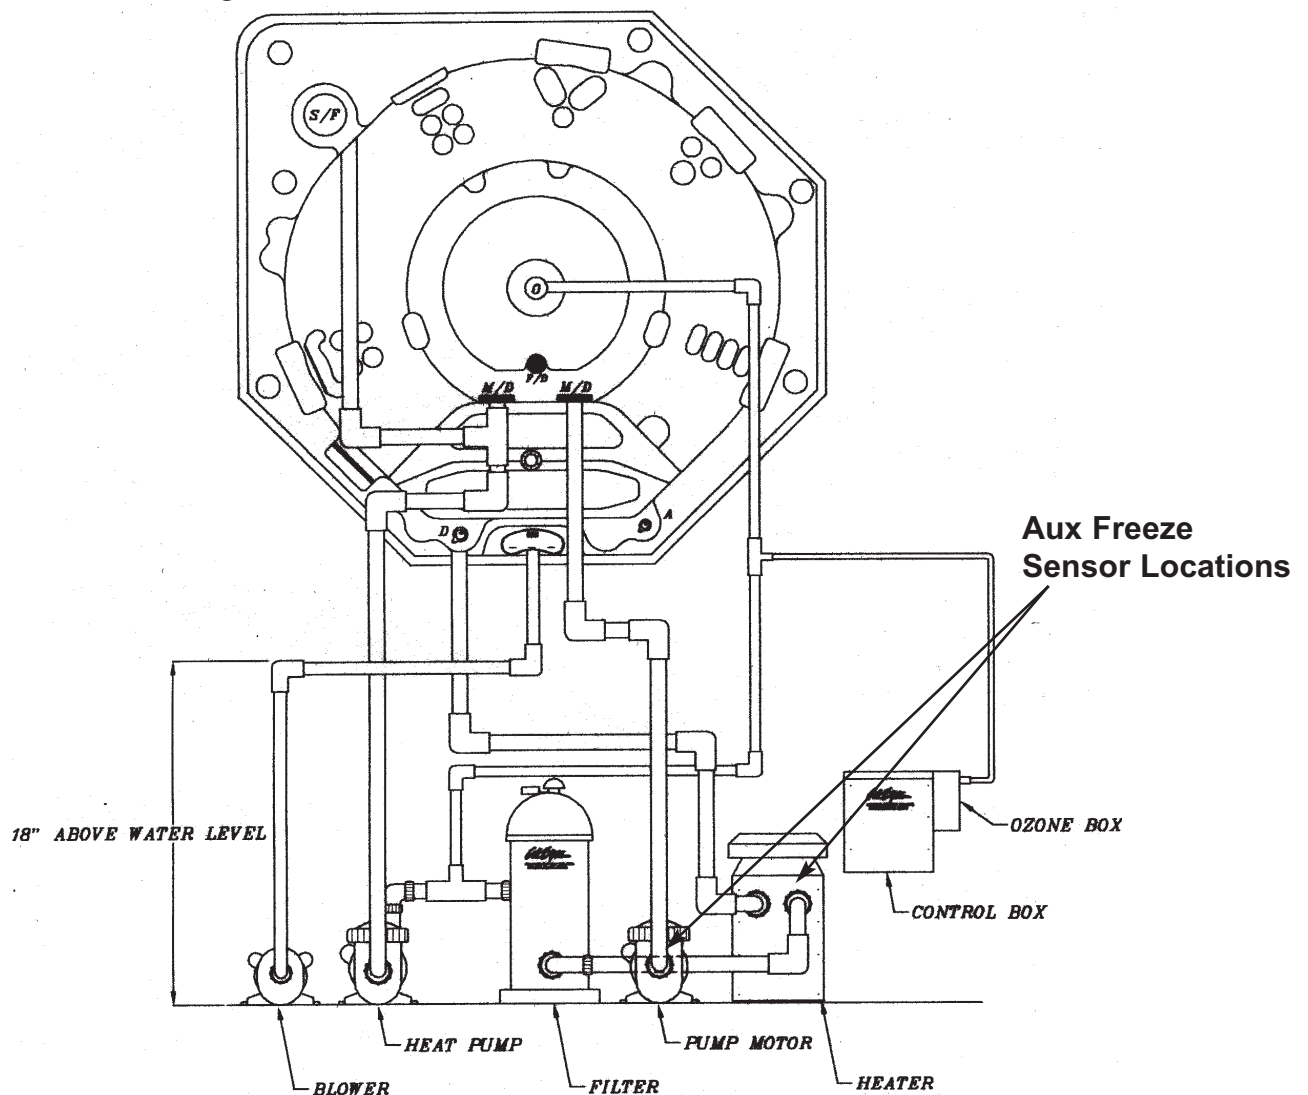

Figure 14. AUX Freeze Sensor Locations.
1. Using a large wire tie strap or zip tie, secure the sensing disk to the booster pump or heater manifold at the lowest metallic point possible. (See **Figure 14** for part identification and installation location)